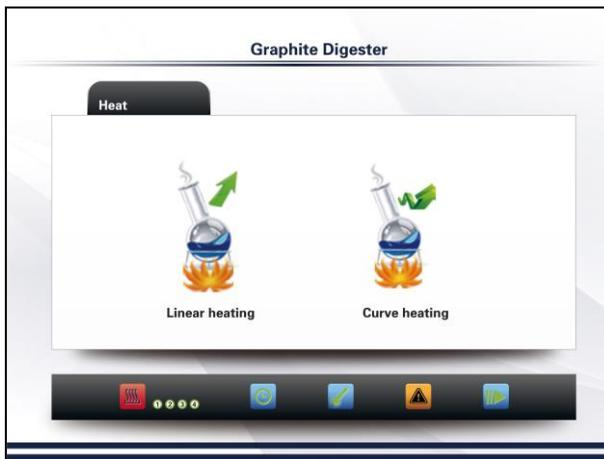

Fig. 10
4.2.3.2 Enter the main interface in 5 seconds, include linear heating and curve heating as Fig.10.